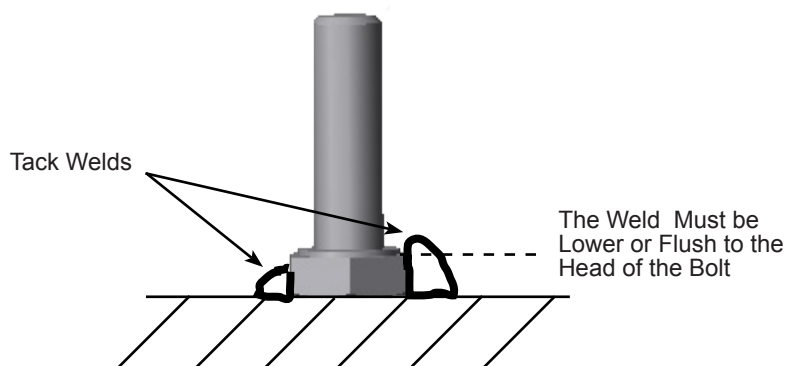

Figure 17 - Tack Weld the Bolt
- 1.27. If the tack welds are higher than the head of the bolt, grind them flush to allow for a proper ground contact. See Figure 17.